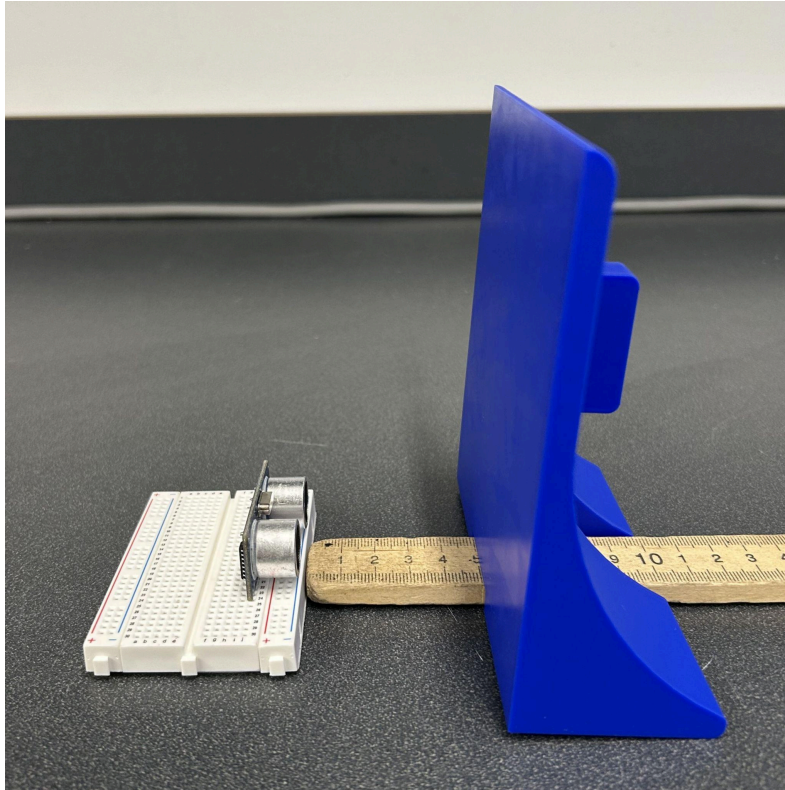

Figure 16: Ultrasonic Sensor, Meterstick, and Target Setup
1. Align the Ultrasonic Sensor with the meter stick, placing it at the 0 cm mark on the lab workstation. **Note:** Ensure the sensor is perpendicular to the length of the meter stick and faces straight ahead (Figure 16).
- a. Make sure the target is perpendicular to the lab bench and directly in front of the sensor (Figure 16).